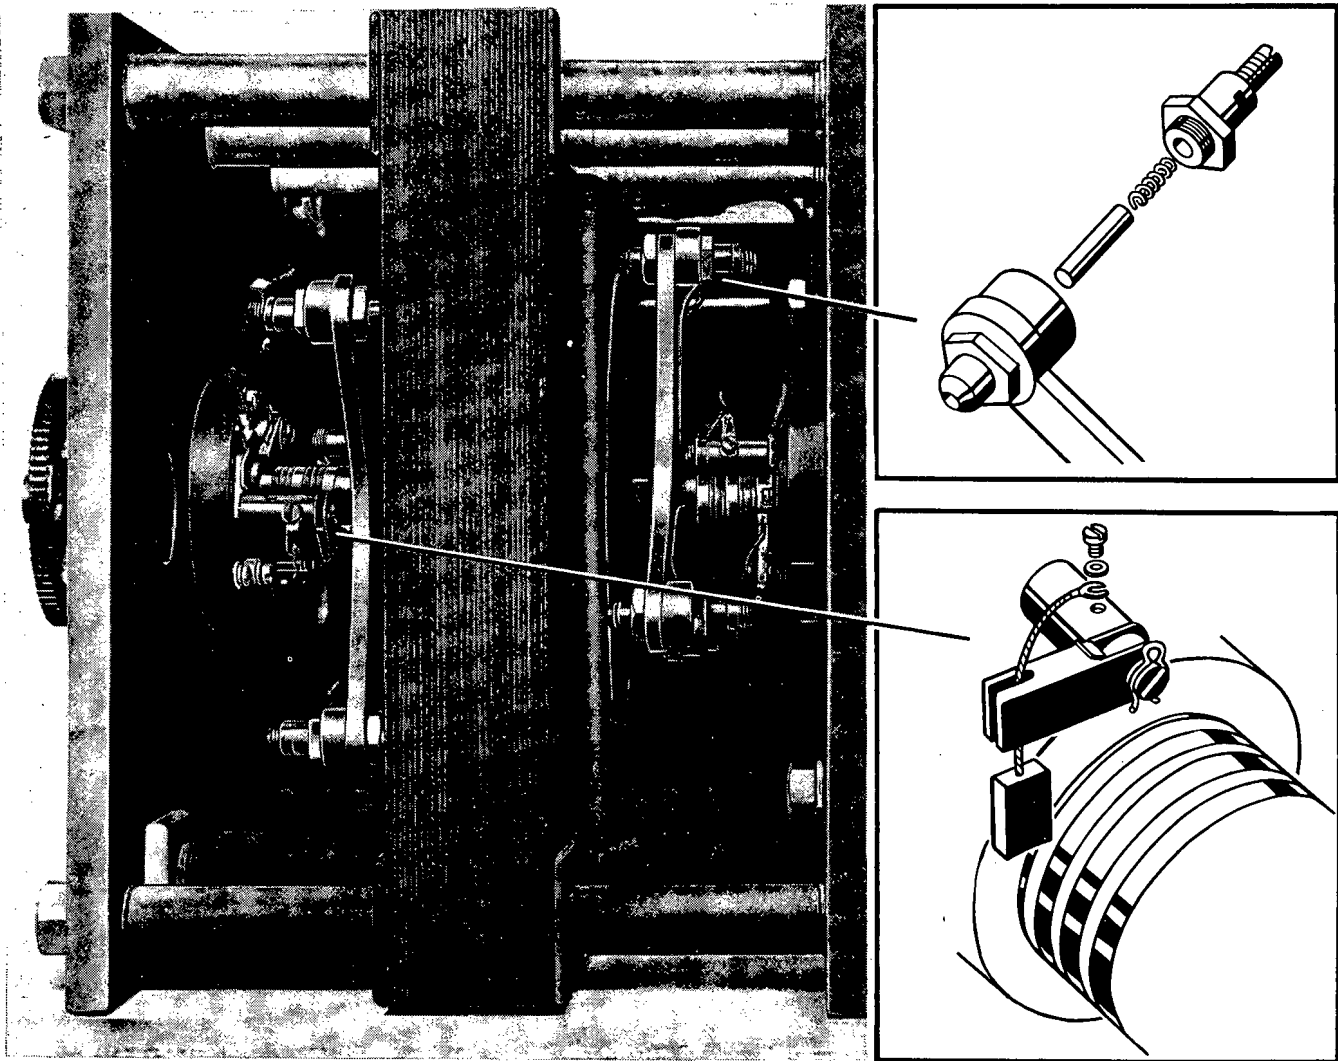

Figure 6-8. Brush Assemblies in Synchro Amplifier
g. The location of the brushes in the Synchro Amplifier is shown in Fig. 6-8. There are six commutator brushes on the commutator arms and six collector brushes on the slip rings. The tension on the commutator brushes is manually adjustable. As shown in Fig. 6-8, a screw may be turned to increase or decrease the compression of the spring that forces the brush against the commutator face on the transformer. The tension should be adjusted so that positive contact is maintained without binding. When the brush is worn to the point where the spring is almost in contact with the shoulder inside the holder, replace it with a new brush. To replace the brush unscrew the hexagonal nut and sleeve assembly that holds the adjusting screw. See Fig. 6-8. Remove the spring and work
the brush out through the rear of the spider arm. Insert the new brush, then the spring and screw the hexagonal nut and sleeve back into position. Adjust the screw to the proper tension. To remove the slip ring or collector brushes, unscrew the fillister head screw that holds the brush braid as shown in Fig. 6-8. Raise the brush arm and slip the brush out. Note that the brush may be removed for inspection by lifting the brush arm, dropping the brush down and sliding the braid out through the slot in the end of the brush holder. The brush should be replaced whenever it wears to the point where the holder is about one-eighth of an inch away from the slip ring. If the slip rings become dirty, clean them with a cloth dipped in an approved solvent. Then polish the rings with a dry cloth. The brush holder assembly may be removed by first removing the brush and then removing the hairpin clip that holds the brush holder on the shaft. The brush holder and spring assembly may be slipped off of the shaft when the clip has been removed. When